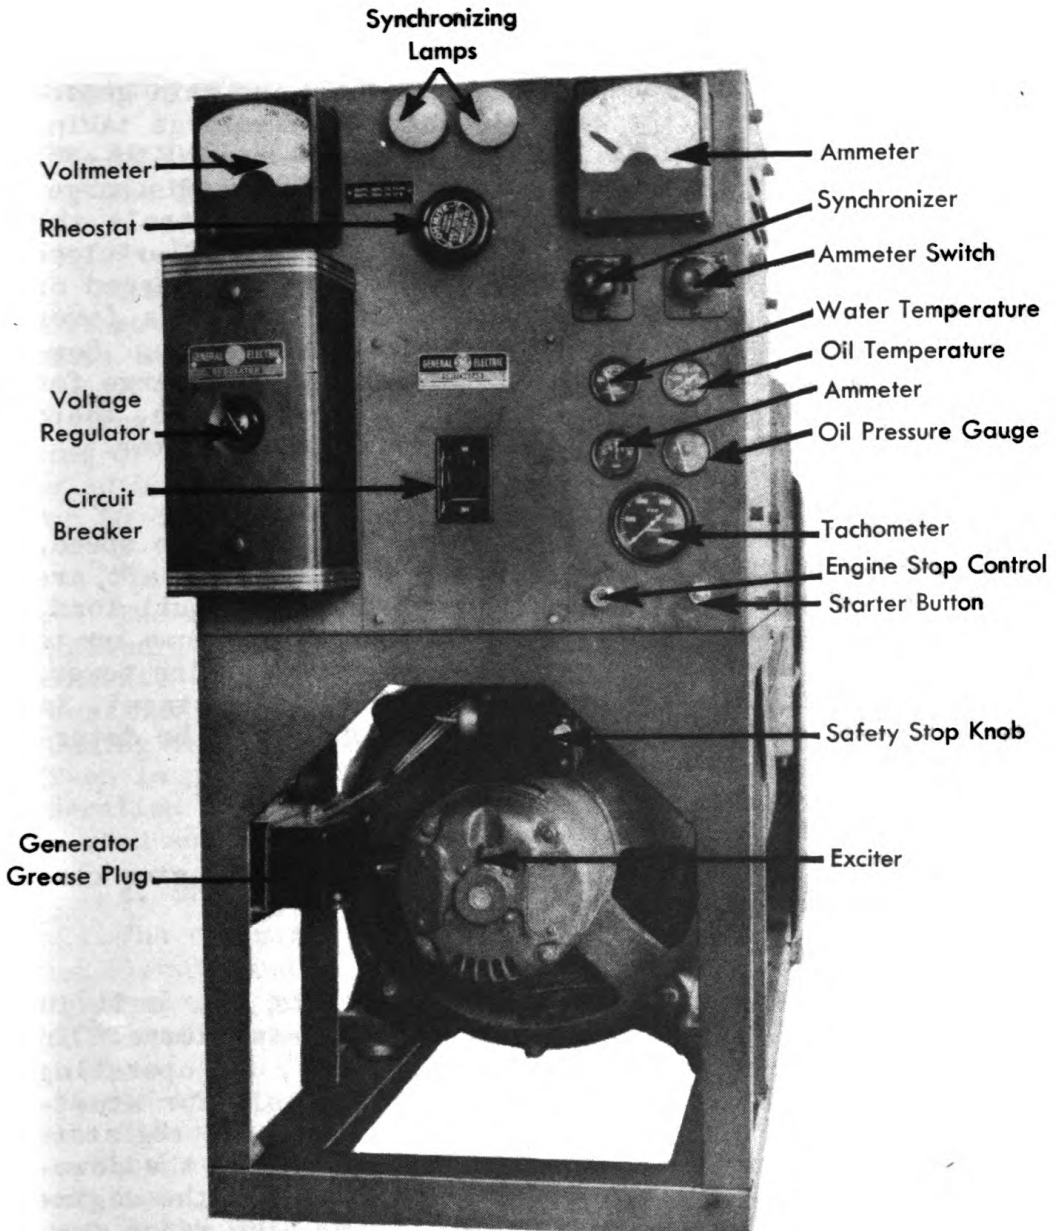

Figure 13. View of Control Panel
The instruments used to indicate the efficiency of the engine and its component functions are a water temperature gauge, an oil temperature gauge, an ammeter, an oil pressure gauge, and a tachometer. See Figure 13.
3. Turn the exciter field rheostat so that the pointer points to the mark on the front of the panel. See Figure 13. The unit is now ready to operate under load. With the load attached, move the breaker into the "on" position.